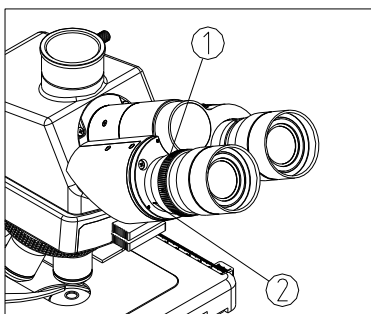

Fig. 15
After the image is clear in the right eyepiece, observe the left eyepiece with the left eye. Rotate the diopter adjustment ring① until the image is clear (Fig. 15).